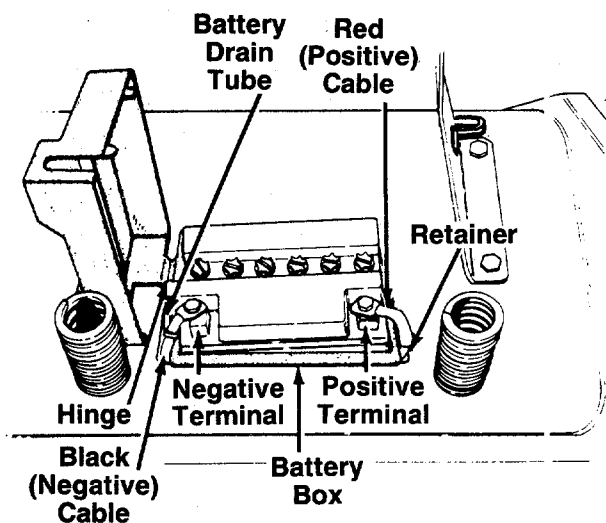

FIGURE 3.
See figure 3. Route the battery drain tube down beside the battery box.
4. Slide the hex nut (provided with battery hardware) into the positive (+) terminal. Place the positive cable on the positive terminal. Secure with bolt provided. See figure 3.